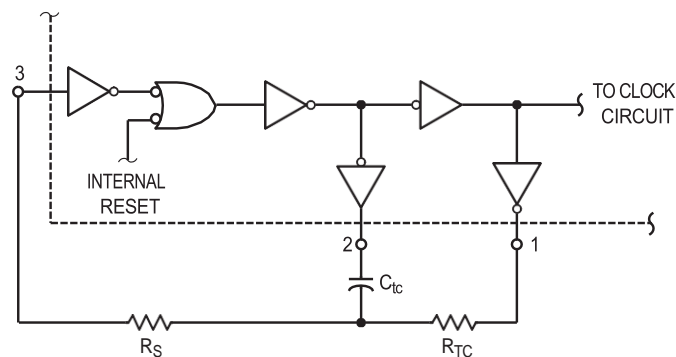

Figure 3. Oscillator Circuit Using RC Configuration
6. When using the on chip oscillator the total supply current (in μA_{dc}) becomes: I_T = I_D + 2 C_{tc} V_{DD} f × 10⁻³ where I_D is in μA, C_{tc} is in pF, V_{DD} in Volts DC, and f in kHz. (see Fig. 3) Dissipation during power-on with automatic reset enabled is typically 50 μA @ V_{DD} = 10 Vdc.
The RC oscillator as shown in Figure 3 will oscillate with a frequency determined by the external RC network i.e.,